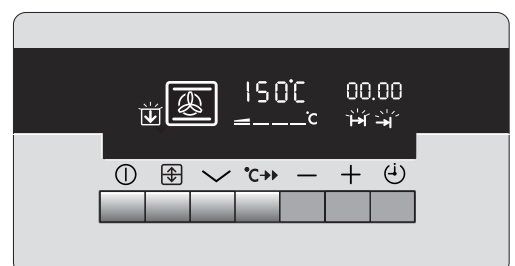

Fig.12.
- i) To stop the sound press any button, as Fig. 12.